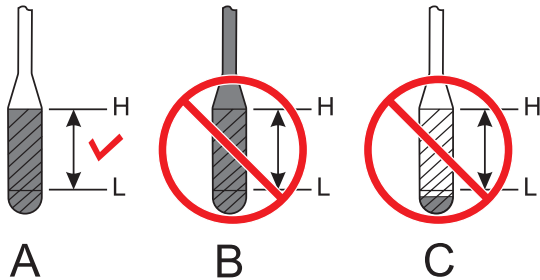

Figure 28. Engine Oil Dipstick
3. Reinsert the dipstick, then remove the dipstick from its holder. Check the oil level shown on the dipstick (Figure 28).